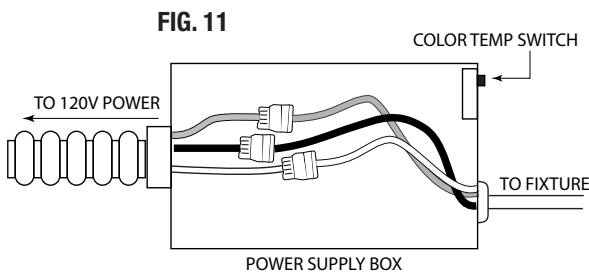

FIG. 11
6. CONNECT INCOMING POWER: Open Power Supply box cover and remove appropriate knock-outs to install fittings (1/2" trade size) with power leads. Connect Power Supply Box to 120V power source using flexible conduit or Romex (by others) through the mounting hole. Using wire connectors, connect incoming leads to power supply input leads. Ground to Green wire, Neutral to White wire, Hot Line to Black wire of box (Fig. 11).